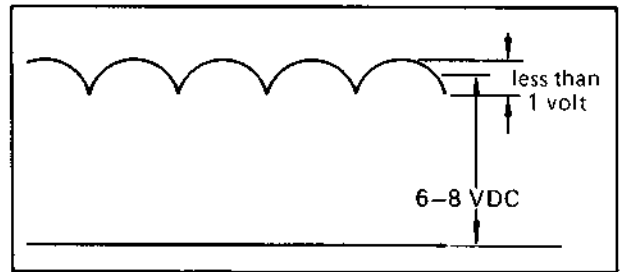

Fig. 6-14 AC ripple of drum motor input
4. Set the unit to Play mode. Then press the PAUSE key and verify the AC ripple of TP-16 as shown in Fig. 6-14. If the AC ripple is more than 1 volts peak-to-peak on TP-16, the drum motor will have to be replaced.